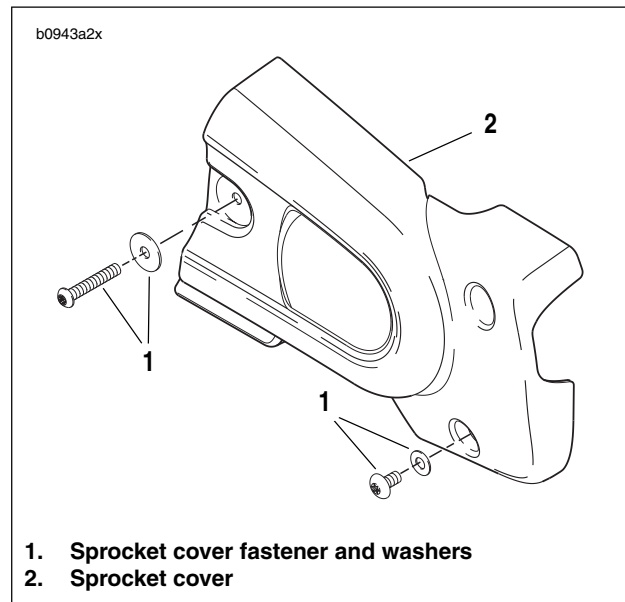
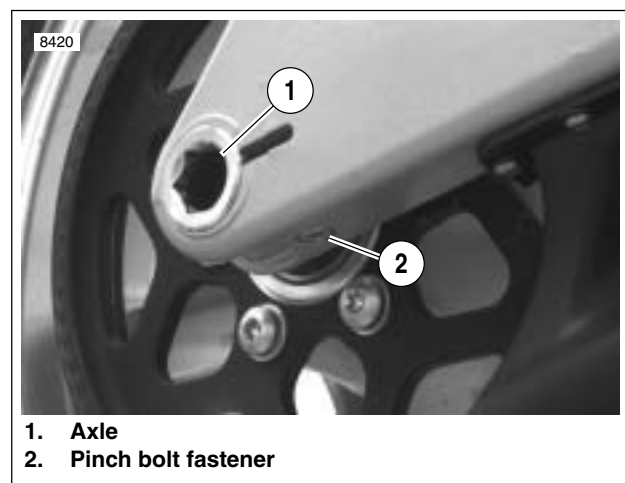

Figure 6-39. Sprocket Cover
Figure 6-40. Rear Wheel Mounting, Right Side
4. See Figure 6-39. Remove sprocket cover. See 2.30.
5. See Figure 6-40. Loosen rear axle pinch fastener (2).
6. Loosen rear axle (1) approximately 15 rotations to allow partial tension to be removed from rear drive system.
8. See Figure 6-40. Tighten rear axle (1) to 23-27 ft-lbs (31.2-36.6 Nm), back off two full turns and then retighten to 48-52 ft-lbs (65.1-70.5 Nm).
9. Tighten rear axle pinch fastener (2) to 40-45 ft-lbs (54-61 Nm).
10. See Figure 6-39. Install front sprocket cover (2) by tightening fasteners to 12-36 in-lbs (1-4 Nm). See 2.30 SPROCKET COVER.